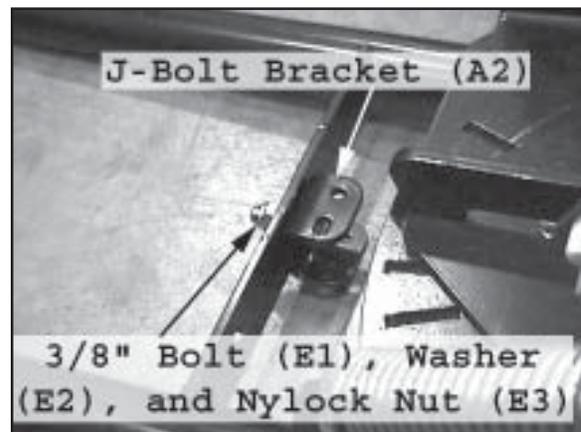

Figure 7 Attach J-Bolt Bracket
8. Attach the J-Bolt Bracket (A2) to the plow crossmember using a 3/8" dia-1" long Bolt (E1), 3/8" washer (E2), and 3/8" Nylock Nut (E3) as shown in Figure 7. The bracket should be installed on the plow blade side of the crossmember. Attach the 3/8" bolt such that the head of the bolt is inside the bracket and the threaded end points toward the ATV. Attach the washer between the nylock nut and plow crossmember.